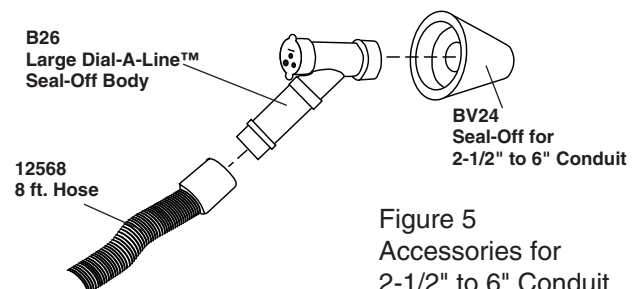

Figure 5
- i. Items required are the BV26 seal-off body and the BV24 seal-off (see Figure 5).